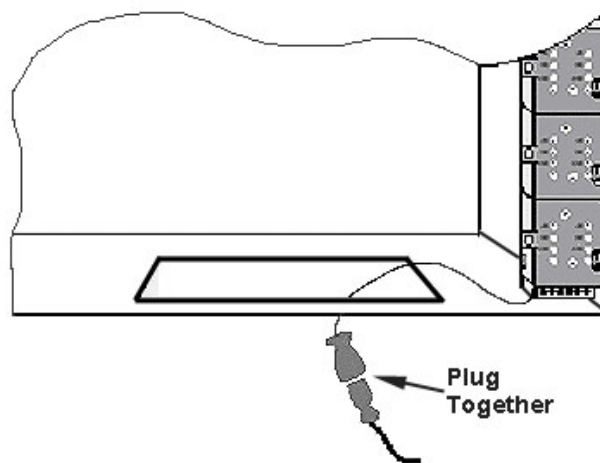

Figure 9. Power Supply Grounding Cable
2. Assure that there is a solid connection. Refer to Figure 9.